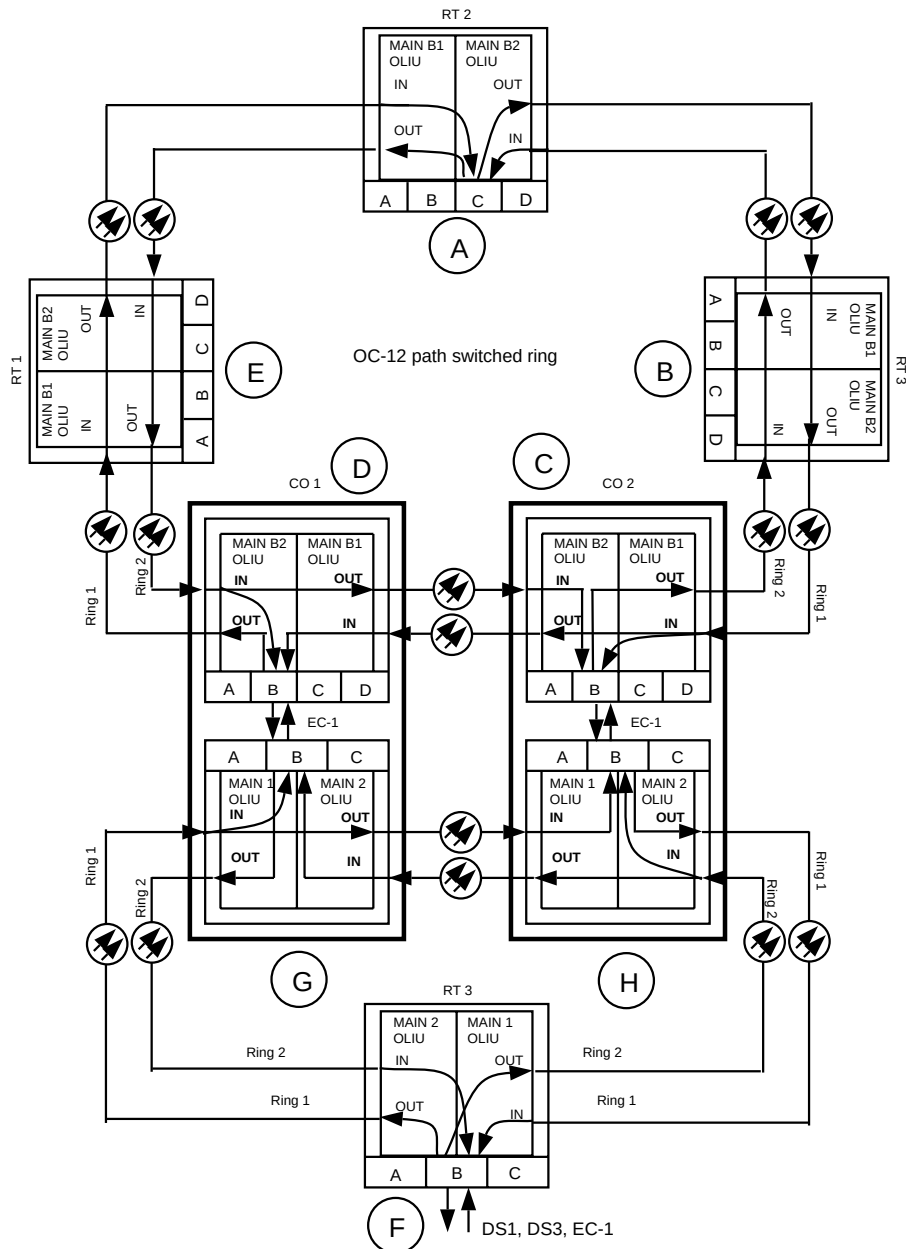

Figure 1. OC-3/OC-12 DRI Interworking
15. At the dual ring interworking nodes having circuit packs replaced, remove both **3STS1E** circuit packs from the OC-12 node and both **STS1E** circuit packs from the OC-3 node. (For example, see Figure 1. Remove the **3STS1E** circuit packs from the OC-12 at node C and the **STS1E** circuit packs from the OC-3 at node H.)
22. Perform end-to-end OC-3/IS-3 line test at DRI nodes (For example, between nodes C and H in Figure 1). **DLP-552**
This procedure is used to establish a single-homed DDM-2000 OC-12 ring connection to an FT-2000 ring (See Figure 1). Other configurations may have to be established to obtain your final configuration. See **NTP-027** for dual-homed configurations from the FT-2000 low speed interface (**LS INTFC**) ports.
Determine the network configuration (for example, see Figure 1.)